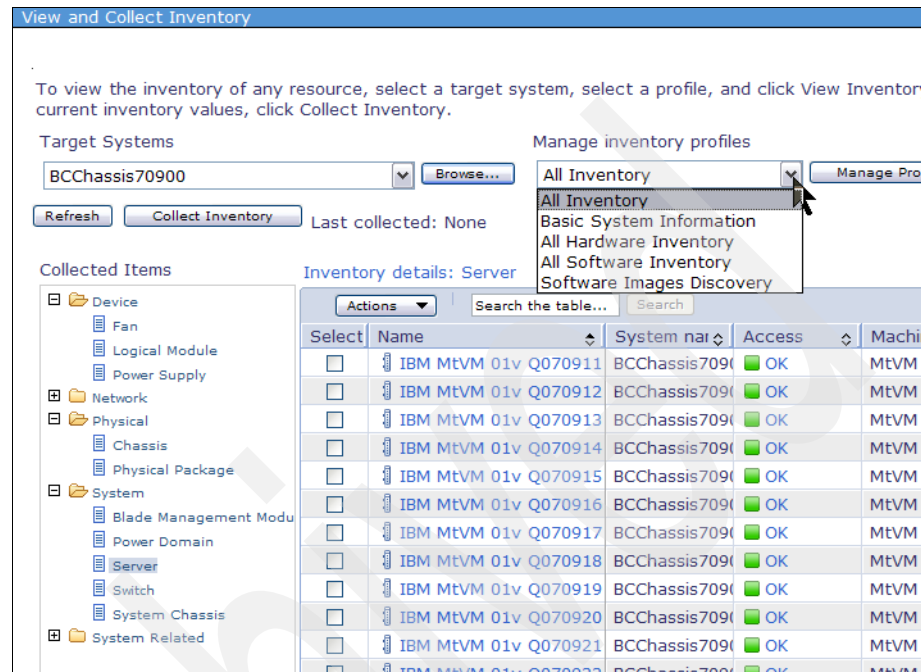

Figure 6-32 Viewing collected inventory for an Active Energy Manager resource - 2
3. The View and Collect Inventory view opens similar to that shown in Figure 6-32.
In Figure 6-32 notice the following features:
4. You can drill down further by clicking one of the selectable resources shown in Figure 6-32 on page 215. In this case, you see the properties for one of the blade servers as shown in Figure 6-33.